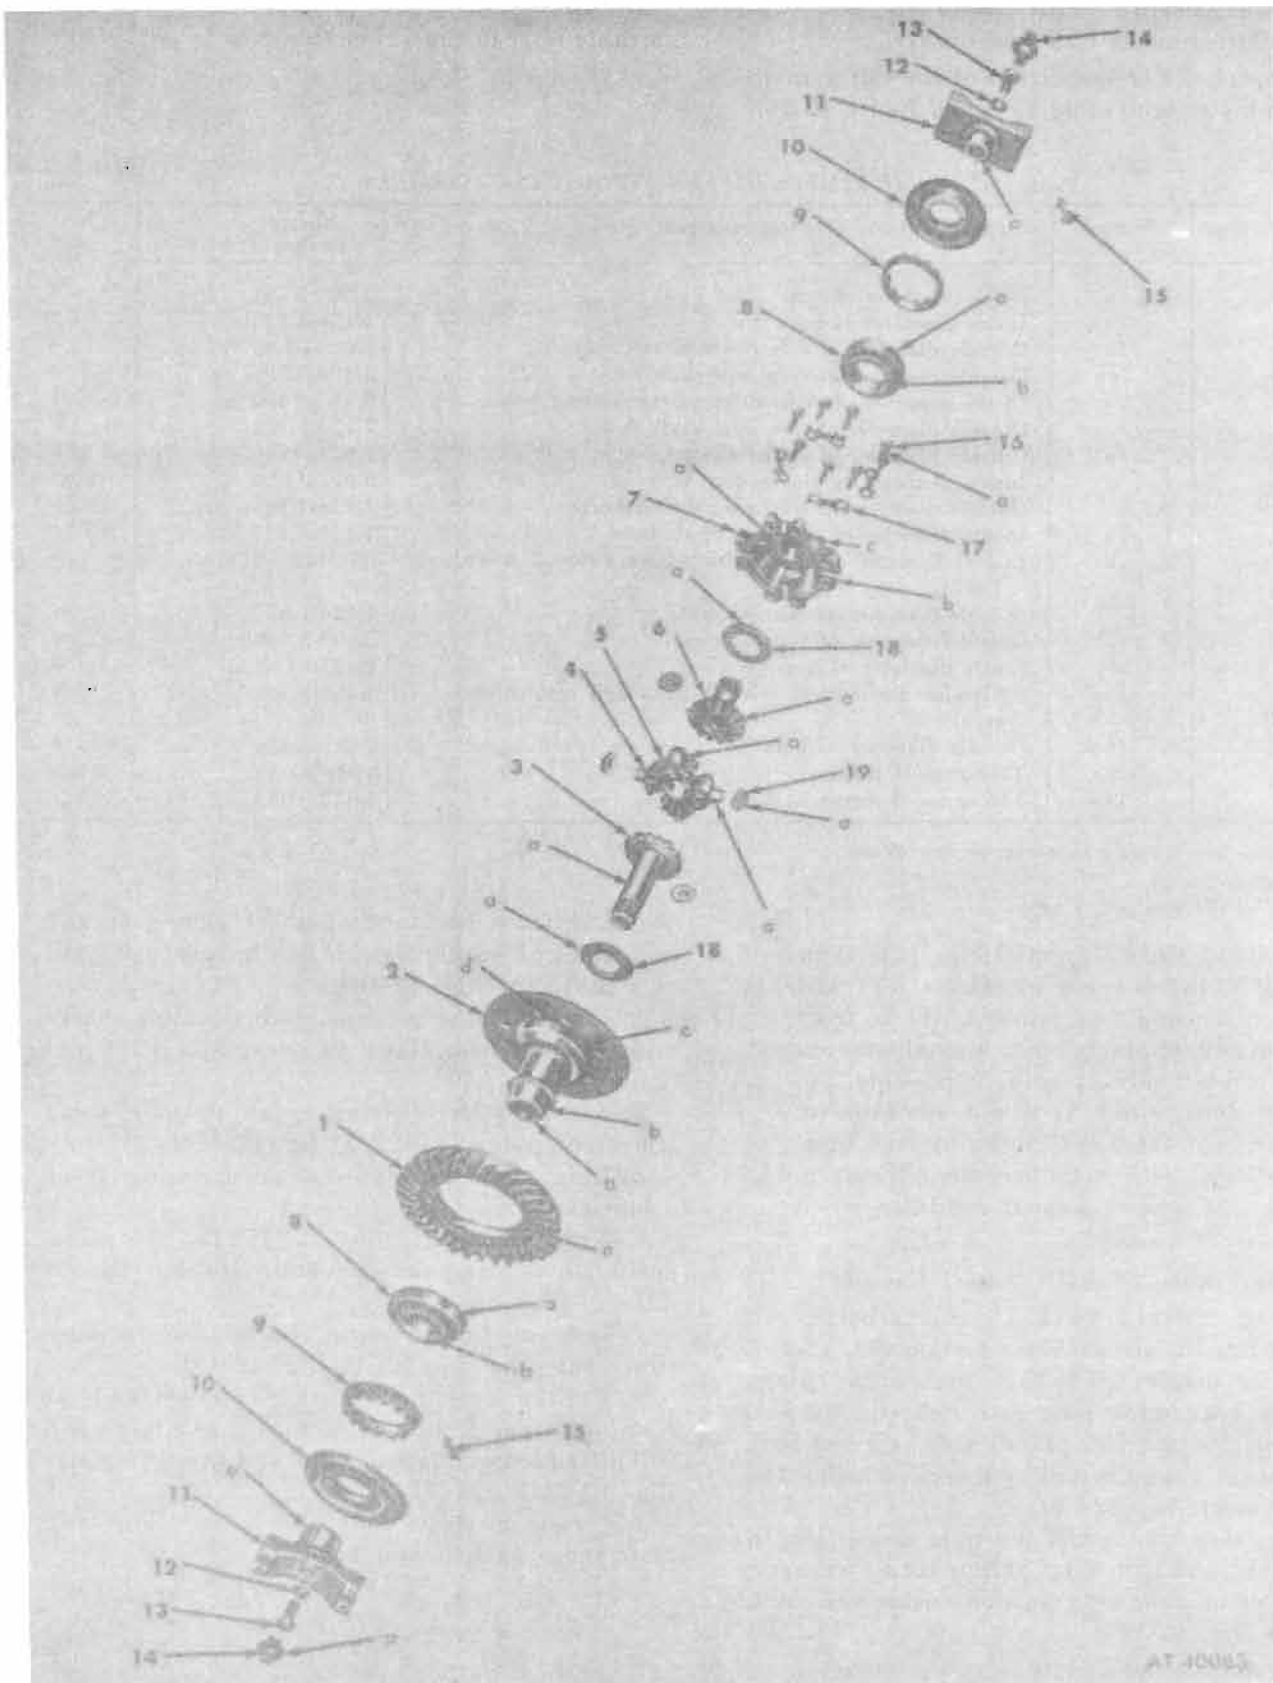

Figure 12-36. Differential case assembly—points of measurement.
a. Inspection. For inspection of the differential case assembly refer to table 12-2 and figure 12-36.
Legend in figure 12-36: